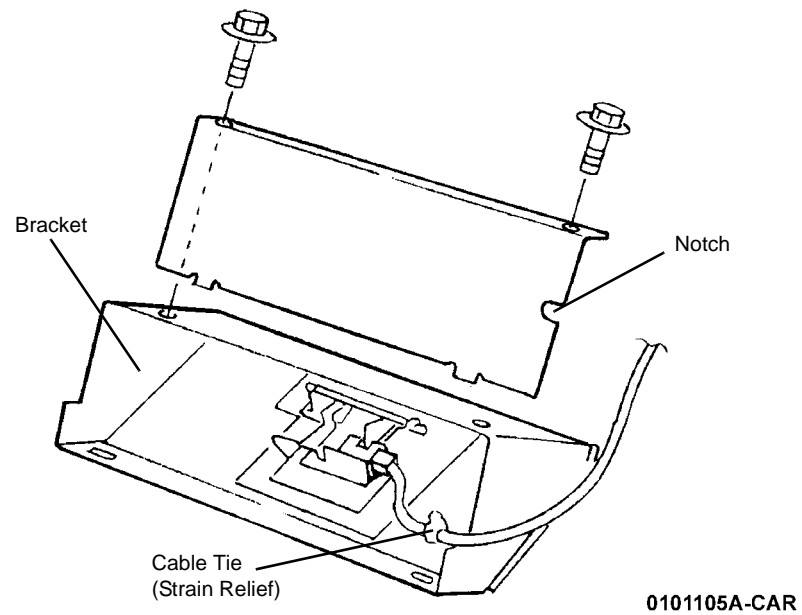

Figure 9 Routing the Cable
3. Make sure when installing the Plate, that the Cable Tie (Strain Relief) is inside the Bracket and the cable is routed through the notch (Figure 9).